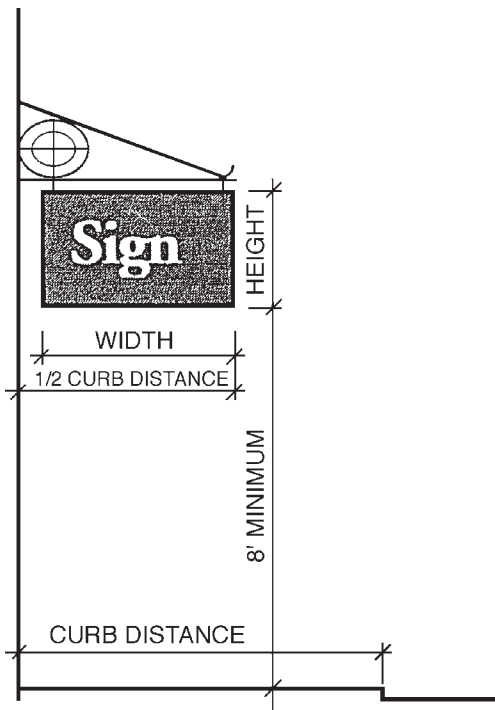

Figure-9
- a. Projecting signs may not project over public property more than 1/2 the distance from the building to the curb, and may not project into a public alley or public parking lot. A sign may not project over the street line. Projecting signs must be a minimum of eight (8) feet above the ground and must be no larger in size than 1 square foot for each linear foot of the side of the building to which the sign is attached, not to exceed 40 square feet per face. (See Figure-9)